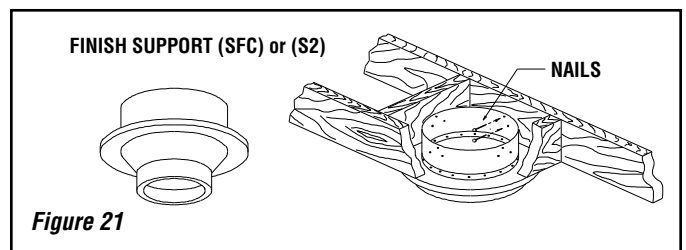

Figure 21
From below push the finish support into the framed hole. Nail the support to the framed box using (12) - 3" spiral nails (see figure 21).